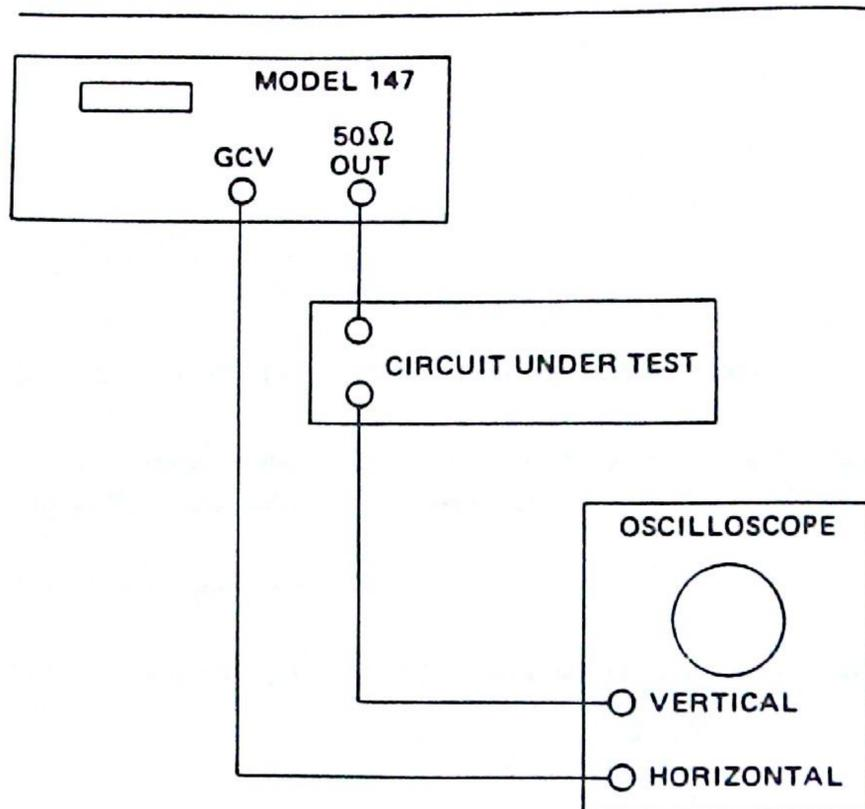

Figure 2-8. Frequency Response Test Using an Oscilloscope in the X-Y Mode
These modes together with the GCV output can be used to perform frequency response tests and drive an X-Y recorder or oscilloscope for display of the frequency response. As an example, Figure 2-8 shows a circuit under test which is to be swept and the frequency response of the circuit displayed
1. Terminate the 50Ω output with 50Ω . Setup as in Figure 2-8 or 2-9 except bypass the circuit under test for this setup procedure.
12. Insert the circuit to be tested as in Figures 2-8 or 2-9 and observe the frequency response characteristics shown on the oscilloscope or recorder.